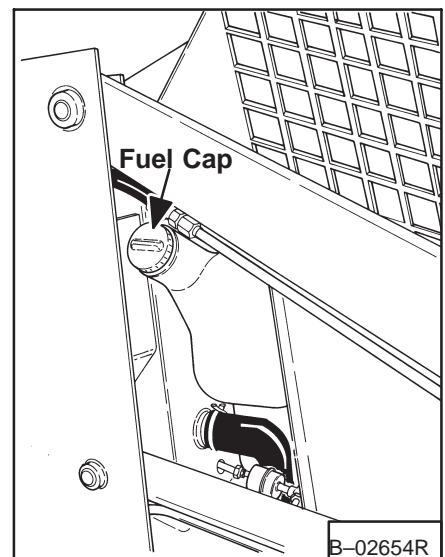

Fig. 1-14 Fuel Filling Location
2. Remove fuel cap (Fig. 1-14) and fill tank with clean fuel using an approved safety container.